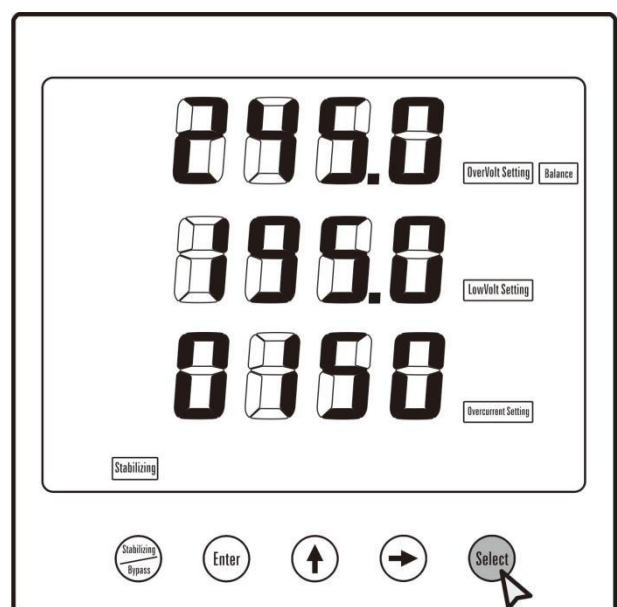

Fig. 6
⑥ The first three digits of the first row indicate overvolt setting, the first three digits of the second row indicate lowvolt setting, the first three digits of third row indicate overcurrent setting, the digit after the point of the first row indicates balance ("1" indicates phase voltage balance, "0" indicates line voltage balance), as shown in Fig. 6